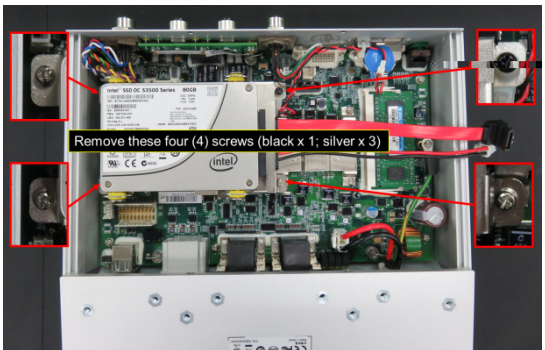

Figure 16
4.2.2.3 Use a Phillips screwdriver (item 1 in Table 2) to remove the four (4) screws that attach the HDD/SSD assembly to the board as shown in Figure 16.